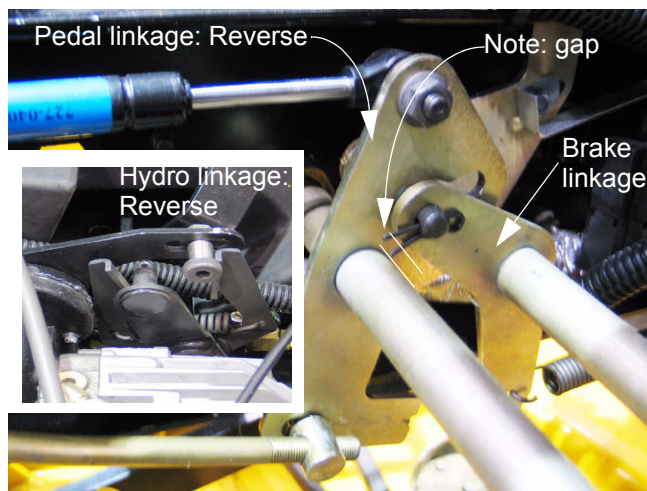

Figure 3.4
- 3.4. Confirm that full travel is achieved in the reverse direction. See Figure 3.4.